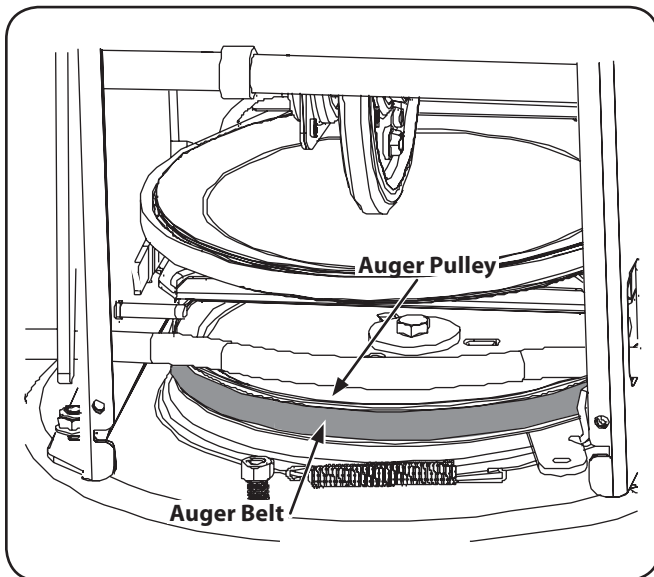

Figure 7-5
- Lift the auger belt from the auger pulley, and slip belt between the support bracket and the auger pulley. Repeat this step for the front auger belt. See Fig. 7-5.